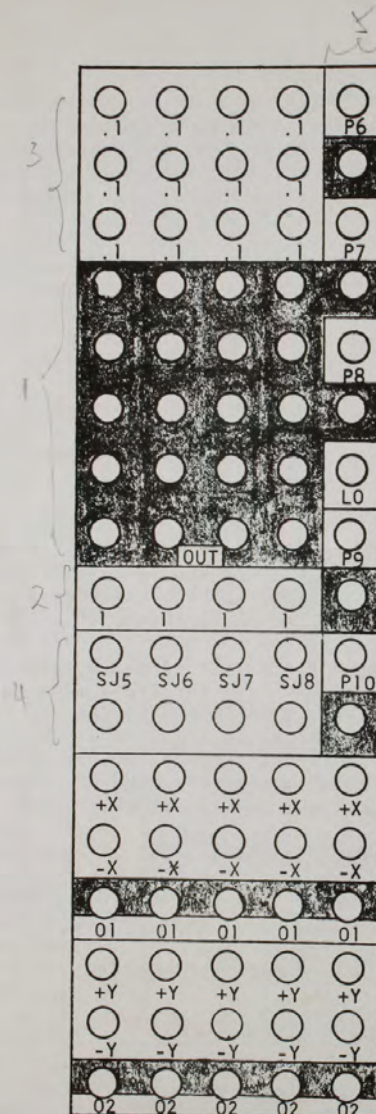
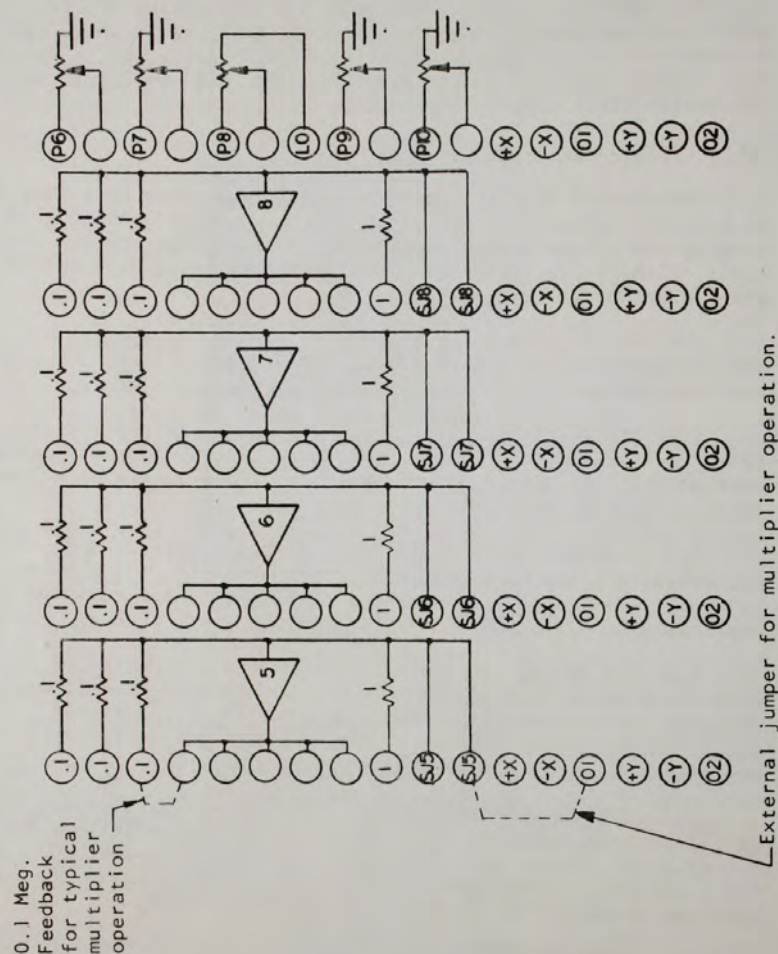

Figure 3-5. Patchboard Layout for 4-Amplifier Multiplier-Summer Area
Figure 3-6. Patchboard Circuit Schematic, Multiplier-Summer Area
The multiplier-summer area is illustrated in Figure 3-5, and the actual circuit connections are shown in Figure 3-6. The detailed description follows.
(1) **AMPLIFIER OUTPUTS.** The 4 x 5 matrix of holes extending from row 4 to row 8 in Figure 3-5 have a black background and are labeled OUT. Columns 1, 2, 3, and 4 provide five output connections to amplifiers 5, 6, 7, and 8, respectively.
(2) 1 MEGOHM INPUT RESISTORS. Directly below the black output holes is a row of 1 meg input resistors with yellow background. Columns 1, 2, 3, and 4 provide a single 1 meg input resistor for amplifiers 5, 6, 7, and 8, respectively.
(3) 0.1 MEGOHM INPUT RESISTORS. The 4 x 3 matrix of holes with white background at the top of the multiplier-summer area provides connections to 0.1 meg input resistors. Columns 1, 2, 3, and 4 provide connections to three 0.1 meg input resistors for amplifiers 5, 6, 7, and 8, respectively.
(4) SUMMING-JUNCTION CONNECTIONS. Directly below the row of yellow 1 meg holes is a 4 x 2 matrix of holes with blue background (rows 10 and 11 in Figure 3-5) labeled SJ5, SJ6, SJ7, and SJ8. Columns 1, 2, 3, and 4 provide two connections to the summing junction of amplifiers 5, 6, 7, and 8, respectively.
(5) COEFFICIENT-POT CONNECTIONS. The top 11 holes of column 5 in Figure 3-5 provide connections to coefficient-pots 6 to 10. The pot input holes have red background and are labeled P6, P7, P8, P9, and P10 for pots 6, 7, 8, 9, and 10, respectively. The output hole for each pot has black background and is located directly below the input hole for that pot. As shown in Figure 3-6